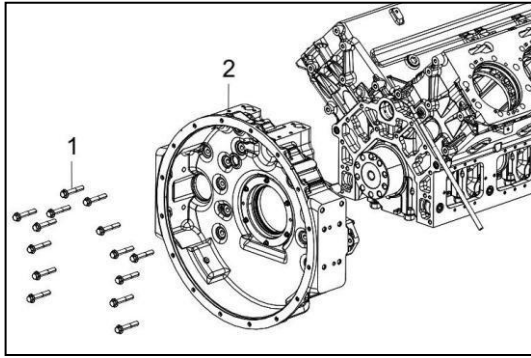

Figure 135
6. Apply Loctite 242 sealant coated at the threads of the flywheel housing bolts (Figure 135, 1).